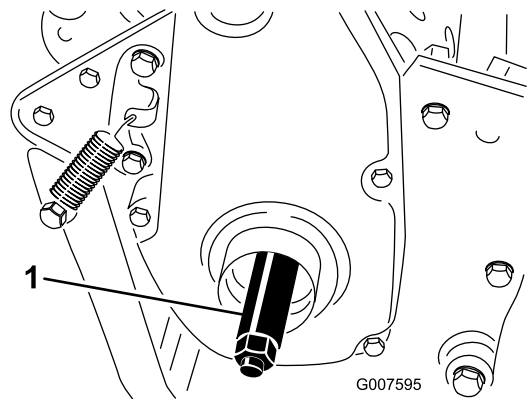

Figure 9
3. Thread the right wheel shaft into the drive pulley on the right side of the machine (Figure 9).